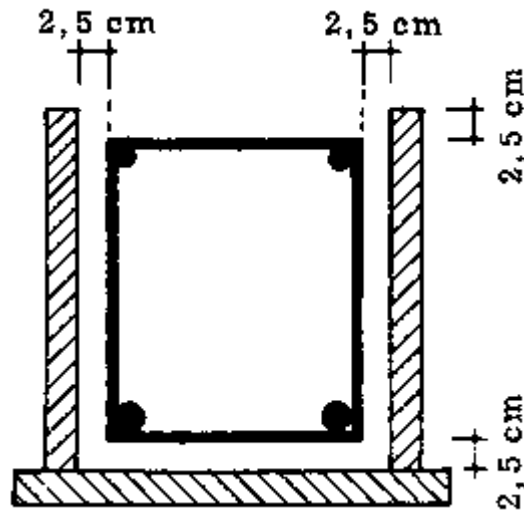

Fig. 2 CLEAR COVER
- CONCRETE COVER: Concrete cover, also called clear cover, is the thickness of concrete between the surface of the concrete and the nearest reinforcement bar enclosed in the concrete (Fig. 2).